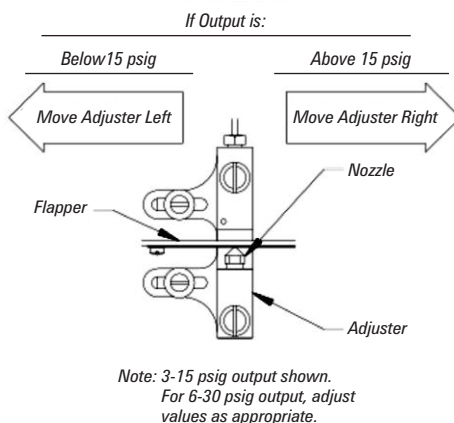

Figure 12 Transmitter Span Adjustment
8. Adjust the span by loosening one of the two adjusting screws and move the calibration adjuster a small distance as indicated in Figure 12.
8. Adjust the span by loosening one of the two adjusting screws and move the CALIBRATION ADJUSTER a small distance as indicated in Figure 12.
Controller action is reversed by changing the position of the reversing block and bellows tubing(s) (Figure 12).